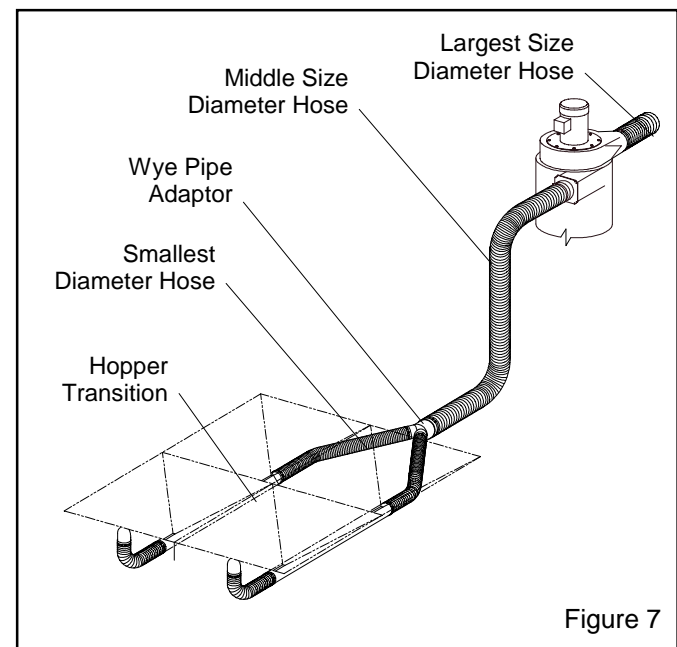

Figure 7
2.6 Connect Conveying Hose, Figure 7